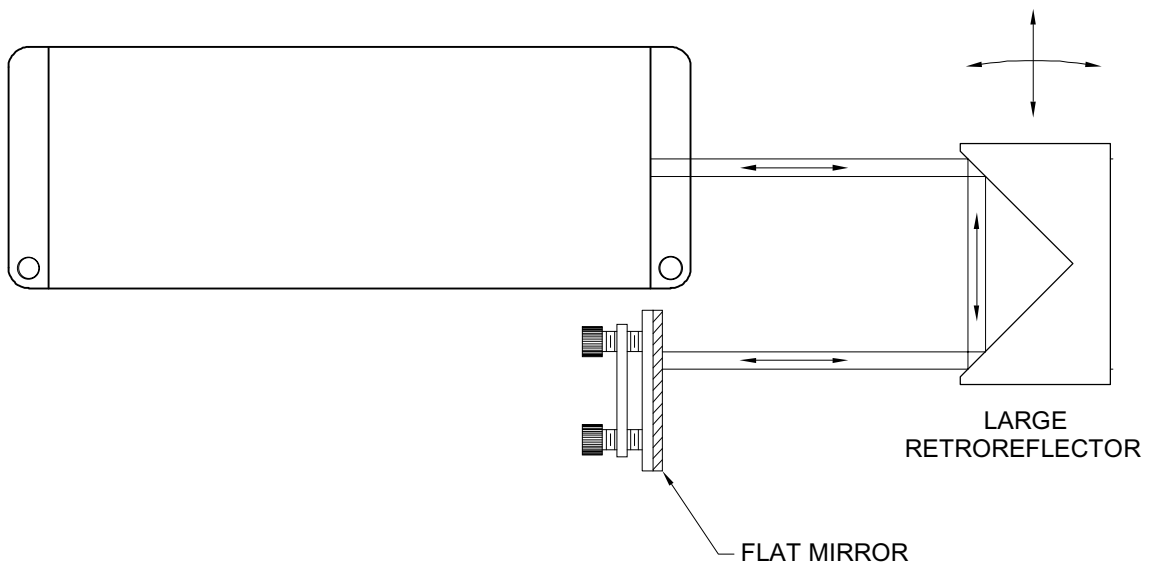

FIG. 11-5 OPTICAL ARRANGEMENT WITH LARGE TOLERANCE FOR ROTATION AND LATERAL MOVEMENT OF RETROREFLECTOR
4. For a target with large rotational and lateral motion, it is possible to use the double-pass optical arrangement as shown in Fig. 11-5. Here the target is a large retroreflector which can be rotated and laterally moved without loss of alignment. Also, the displacement measured is not sensitive to the rotational or lateral motion.